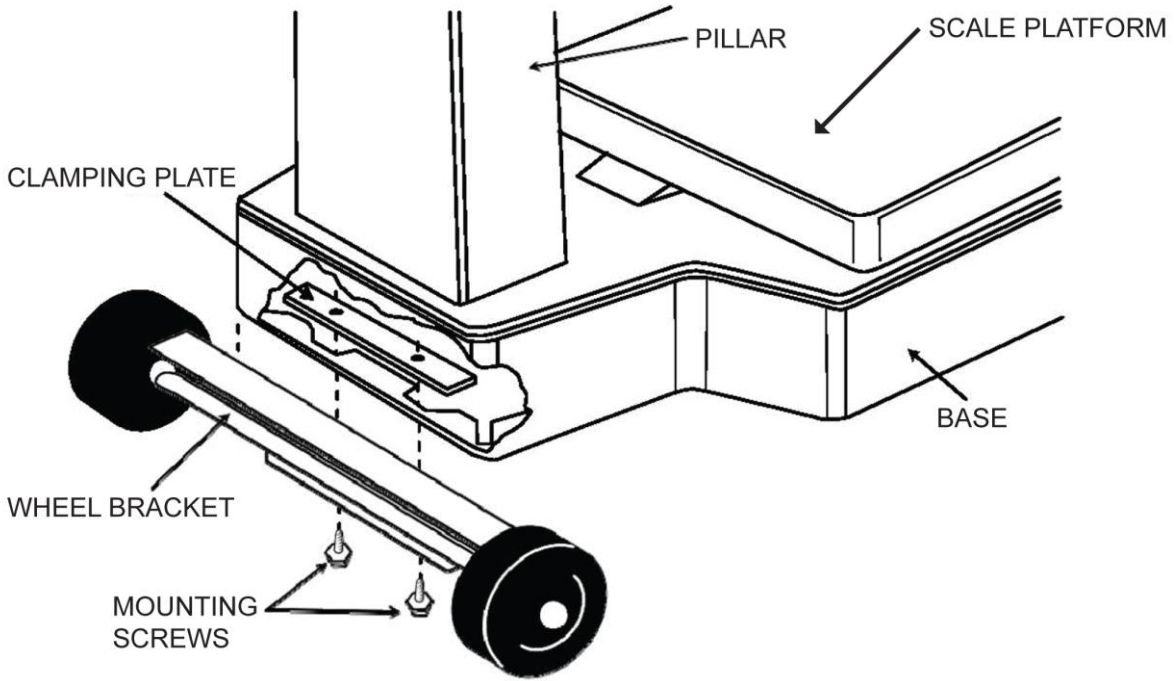

Figure 8
1. Remove the mounting screws attaching the clamping plate to the wheel bracket. (See Figure 8 on page 11)